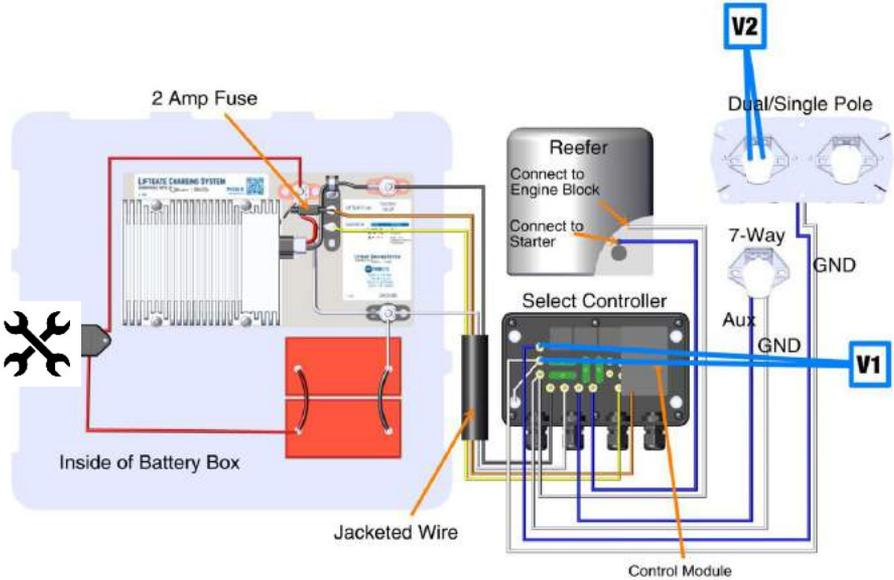

Figure 9
Step 1: With the stinger cord still plugged in, and the tractor running, use a voltmeter to measure the voltage between the dual pole positive stud and the dual pole negative stud inside the Select Controller (see V1 in Figure 9). It should read 13.8 volts or greater. If yes, and the light still is not solid green, call customer service, as the Select Controller or Control Module may be defective. If no, proceed to step 2.
Step 2: With the stinger cord still plugged in, and the tractor running, use a voltmeter to measure the voltage between the positive and negative poles in the stinger receptacle (see V2 in Figure 9). It should read 13.8 volts or greater. If yes, repair or replace the wiring between the stinger and the Select Controller. If no, measure the voltage at the truck battery. If the reading is greater than 13.8 volts, the issue is the wire from the stinger to the truck. If the reading is less than 13.8 volts, the issue is the charging system of the truck; allow the battery to charge or repair the charging system on the truck.